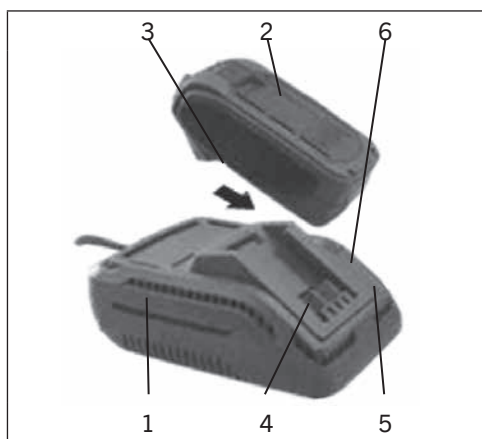

FIG. 1
1. Place the battery charger (1) in a dry location near a 110–120v 60Hz (Fig. 1).
NOTE: Make sure the grooves in the sides of the battery slide over the matching tabs on the charger (4) (Fig. 1) until the battery latch "clicks" into place.
a) When the charger is plugged into the wall receptacle and NO battery is on the charger, the green indicator light (5) will turn ON indicating the charger is "live".
b) When a discharged battery is installed on the charger, the green indicator light will turn OFF and the red indicator light (6) will FLASH. The flashing red indicator light indicates the battery is being charged.